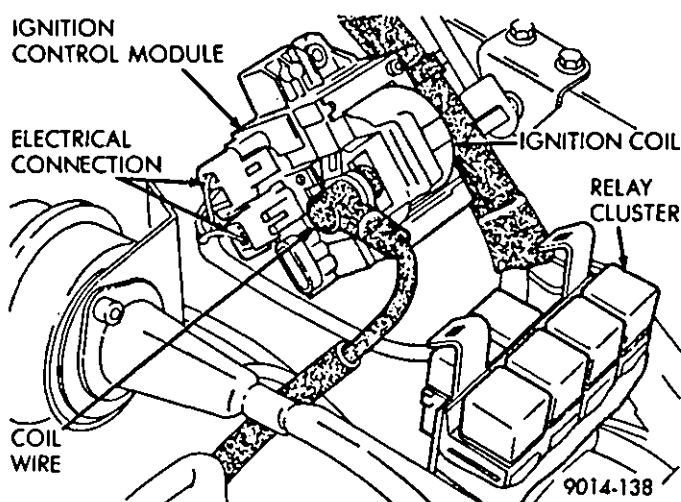

Fig. 13—Ignition Control Module/Coil Assembly
- (1) Disconnect coil wire from coil (Fig. 13).
- (2) Disconnect electrical connectors from ignition control module (Fig. 13).
- (3) Remove ignition control module/coil assembly mounting nuts.
- (4) Remove ignition control module/coil assembly.